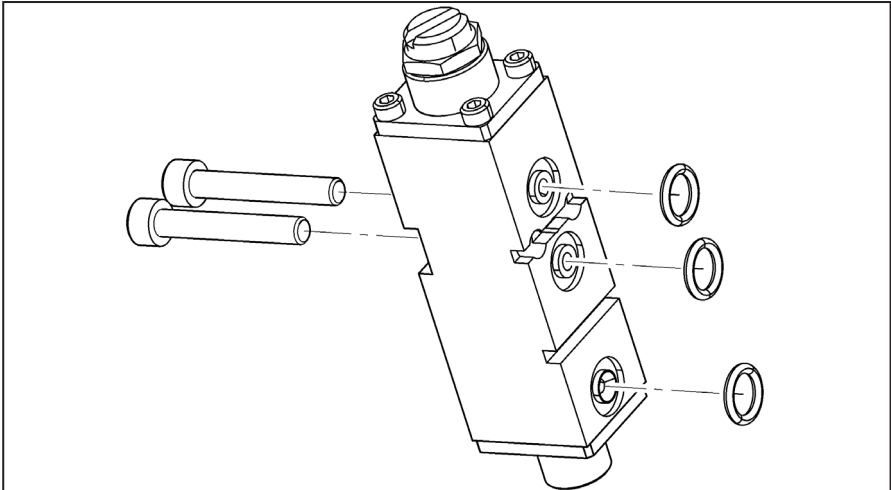

Bild 5: -Fitting O-rings
6. Check the supplied O-rings for completeness and proper seat (see fig. 5).
Part list for fig. 5 - spare parts